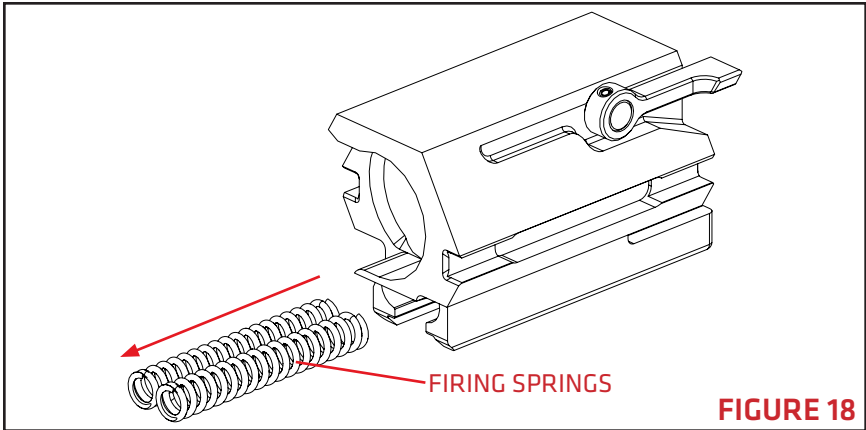

FIGURE 18
6. Remove the two firing springs from inside the bolt carrier (FIGURE 18).